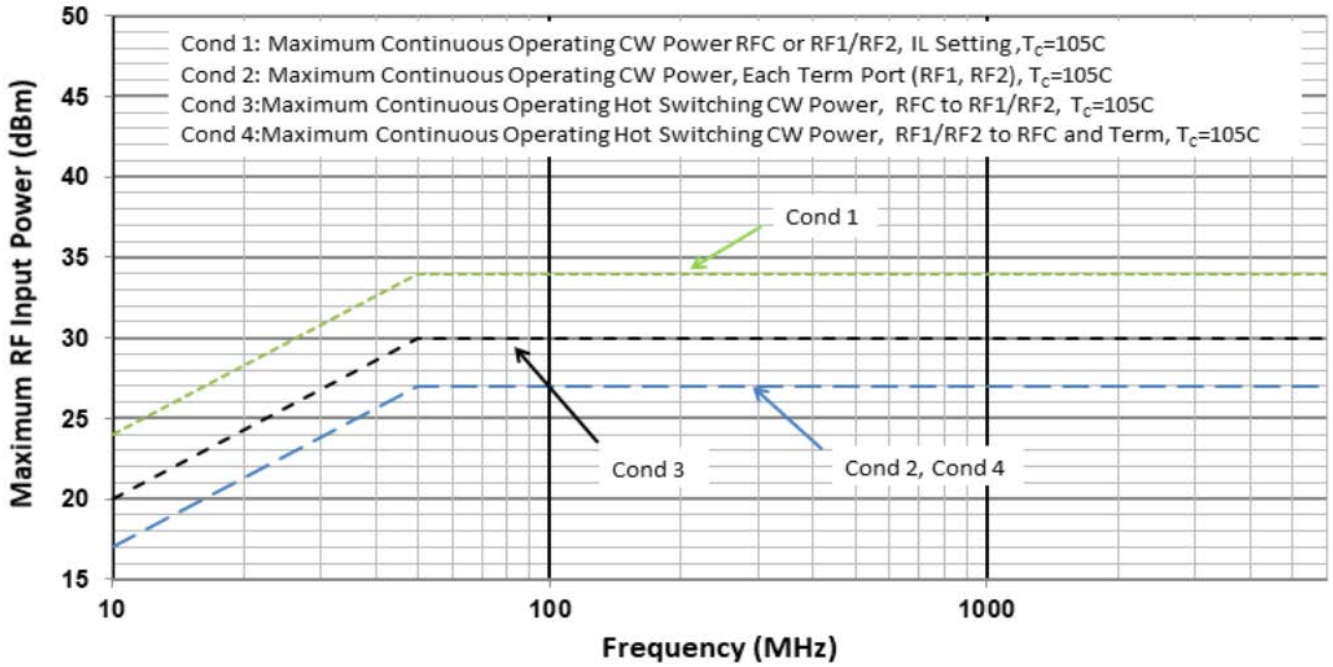

Figure 2. Maximum RF Input Operating Power vs. Frequency
1. Levels based on: $V_{DD} = 3.1V$ to $5.25V$, $250MHz \leq F_{RF} \leq 6000MHz$, $Z_S = Z_L = 50\Omega$. See Figure 2 for power handling derating vs. RF frequency.